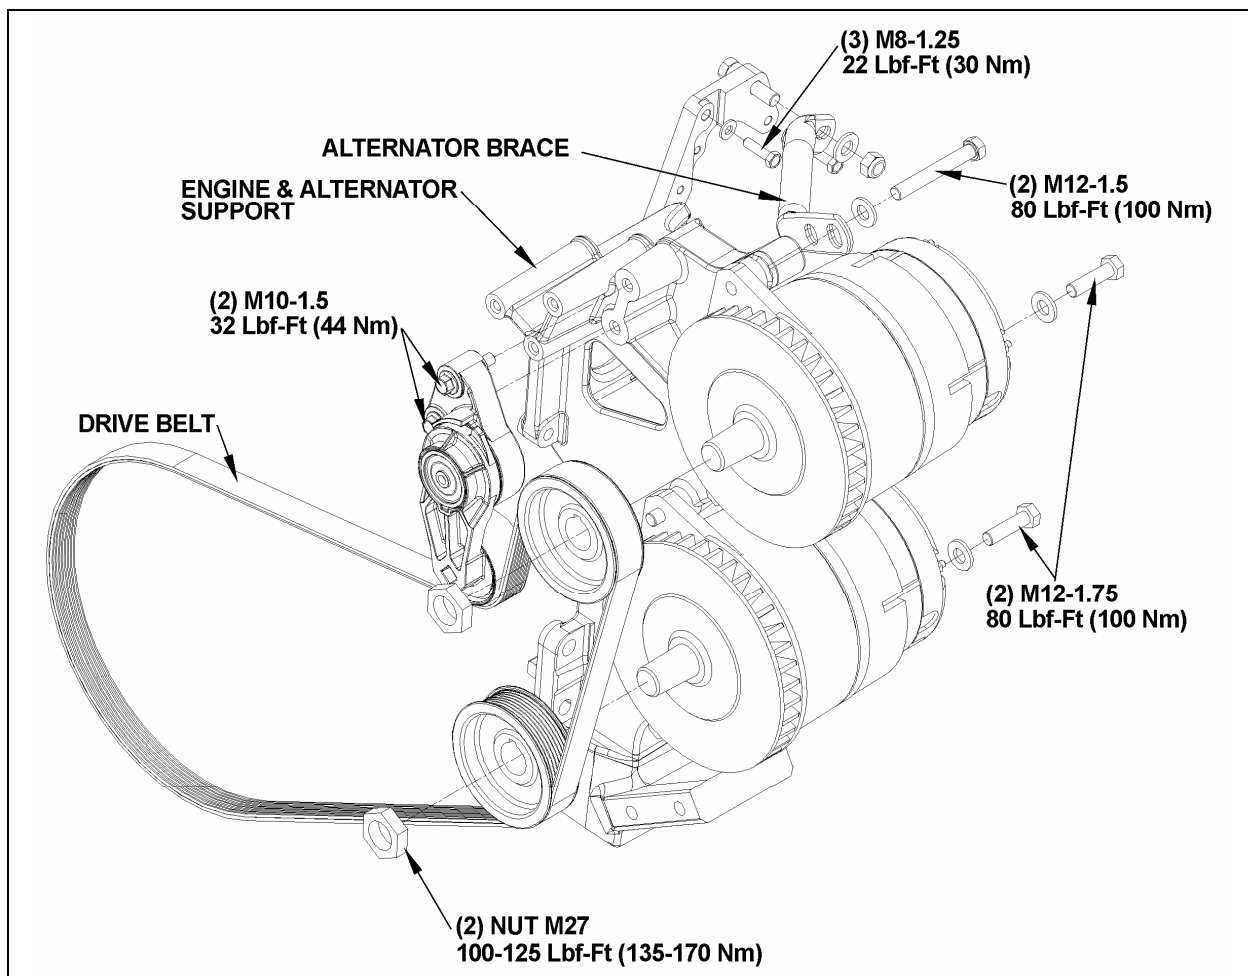

FIGURE 22: BOSCH ALTERNATORS MOUNTING TORQUES (VOLVO D13)
If the alternators needed to be removed, reinstall as follows. Refer to figures 22 and 23 for installation and tightening specifications:
1. If not already done, mount the alternator brace to the engine and alternator support (figure 22);
2. Bolt the alternators to the bracket using one 3.5 inch bolt at the top and two $1\frac{3}{4}$ inch bolts at the lower mounting bosses (fig. 22);